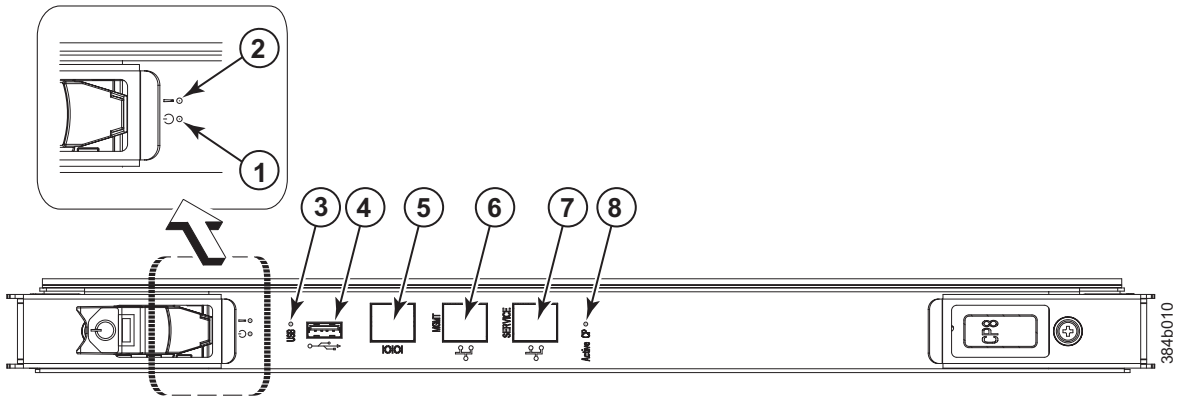

Figure 28. Control processor blade (CP8) LEDs
1. Check the LED indicators on the CP blade (see Figure 28 on page 56). The LED patterns may temporarily change during POST and other diagnostic tests. For information about how to interpret the LED patterns, see Table 10 on page 56.
Figure 28 on page 56 identifies the control processor blade (CP8).